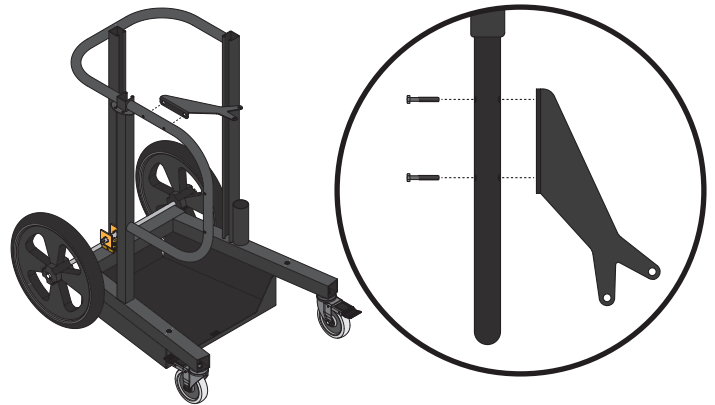

FIG. 3
Align the Top Support Brace (D2) to the two top holes on the CC500's handle and secure in place using two 2" Hex Head Bolts (D5) as shown in [FIG. 3]
Secure the Cyclonic Pre-Separator (A) to the previously installed Top Support Brace (D1) using two 3/4" Bolts (D3) and Nylock Nuts as shown in [FIG. 3]